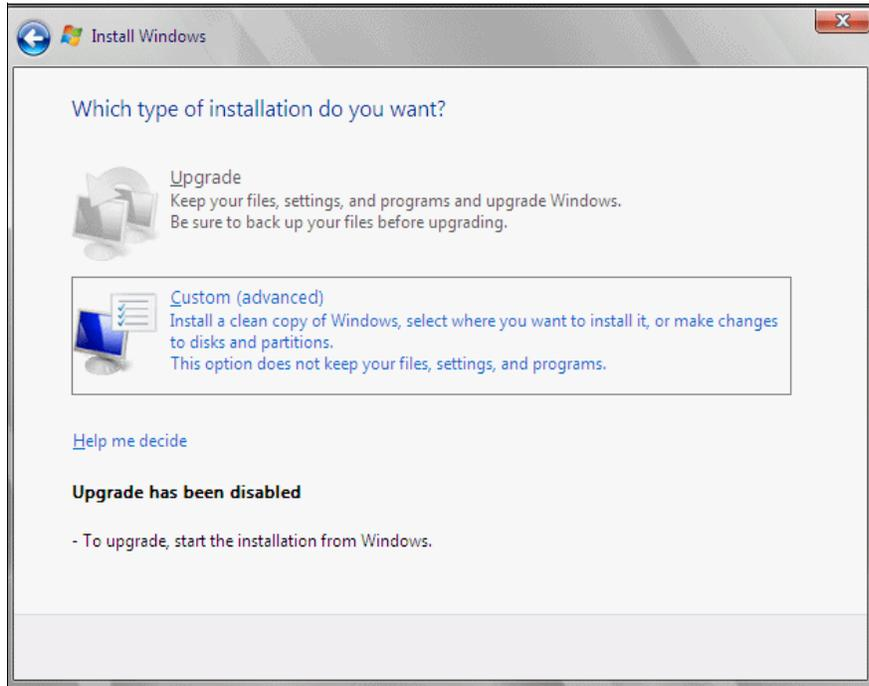

Figure 18-43 Selecting the Custom installation option
6. Click **Custom (advanced)** as shown in Figure 18-43.